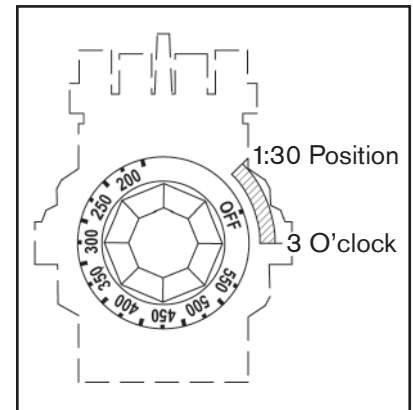

Figure 3
13. For the following thermostats, use Figure 3: